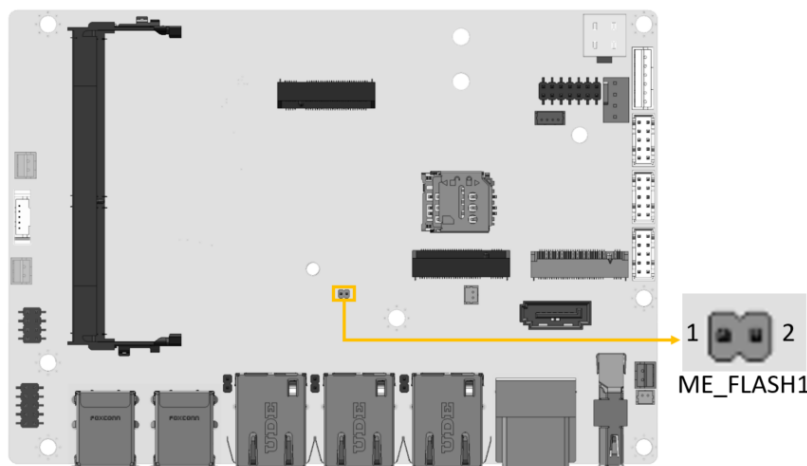

Figure 4-6: Flash Descriptor Security Override Jumper Location
- CN Location:** See Figure 4-6
The Flash Descriptor Security Override jumper (ME_FLASH1) allows to enable or disable the ME firmware update. Refer to **Figure 4-6** and **Table 4-1** for the jumper location and settings.